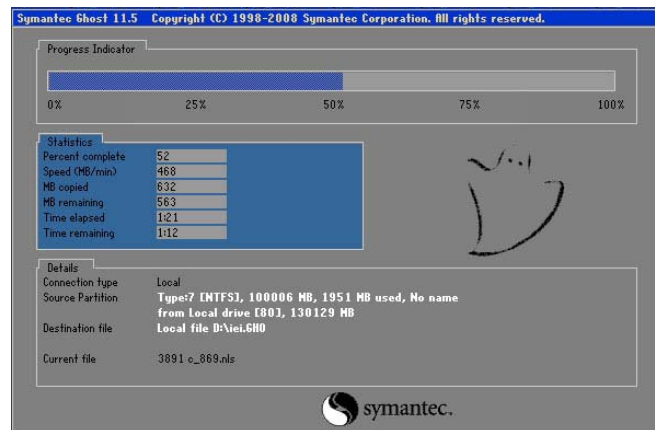

Figure B-27: Image Creation Complete
Step 7: The Symantec Ghost starts to create the factory default image (**Figure B-27**).